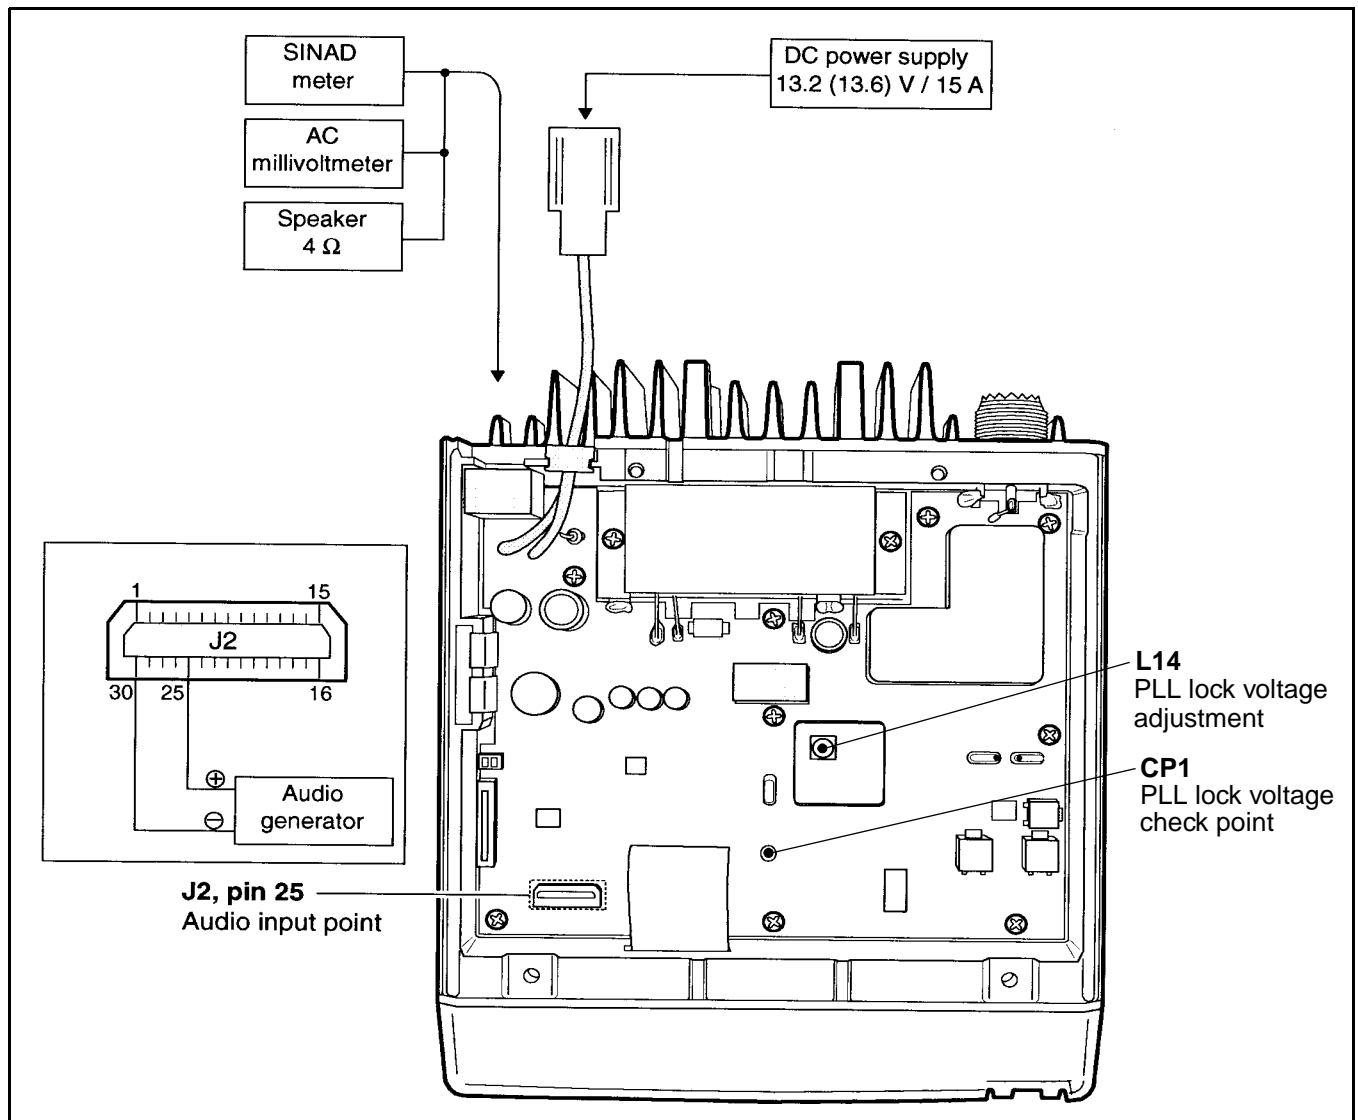

Figure 6-4 VHF Adjustment Points
1. Remove the bottom cover by removing four screws. Connect a DC voltmeter to check point CP1 shown in Figure 6-4.
- a. Connect a SINAD meter with a 4-ohm load to the external speaker jack (see Figure 6-4).